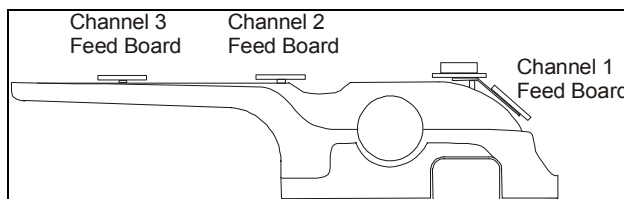

Figure 19: Feed board location.
Step 4 – Locate the three feed boards in the posterior section (see *Figure 19*).